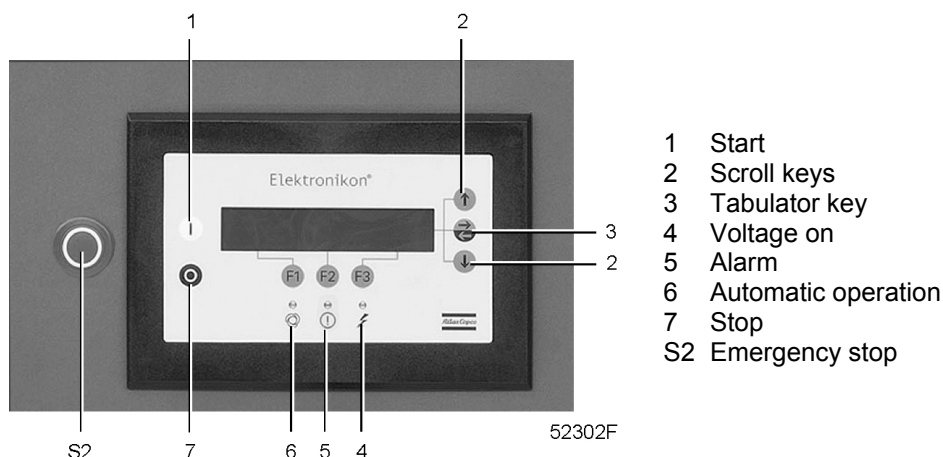

Fig. 2.10 Pictographs on control panel
2.5 Pictographs (Figs. 2.10 and 2.11)
Figs. 2.10 and 2.11 Pictographs